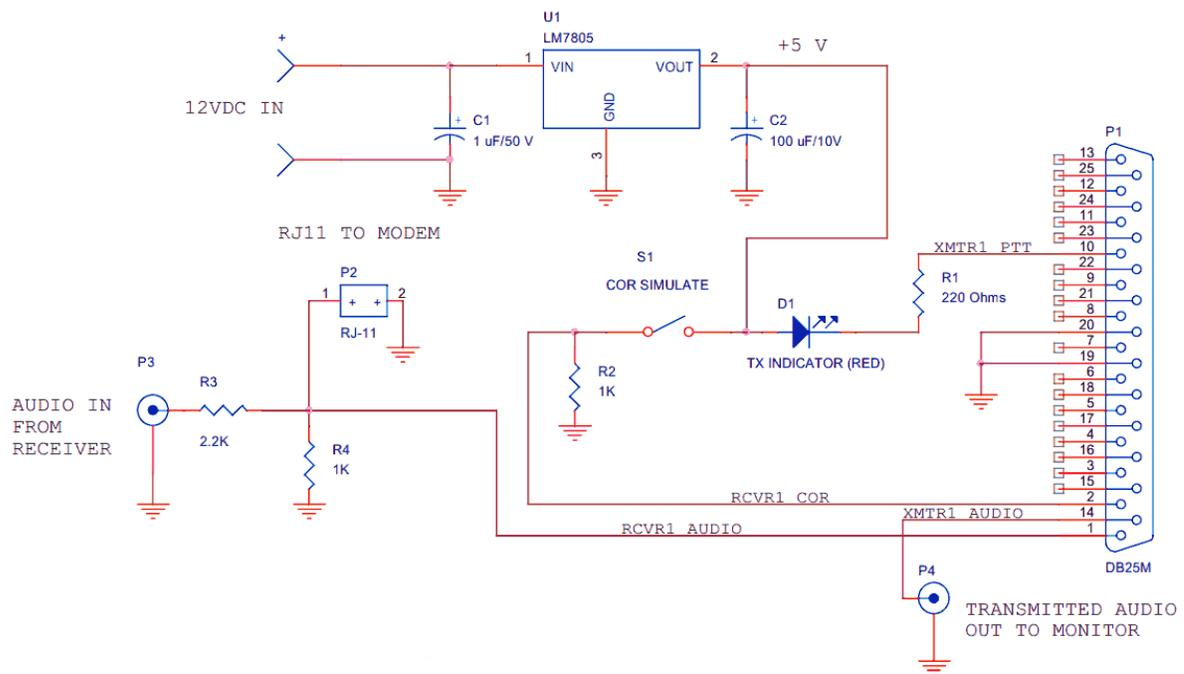

Figure 6: Custom Fixture for Bench Programming S-COM Controllers in DTMF Mode
- A Hayes-compatible smartmodem is connected directly to the S-COM controller using a fixture similar to that of Figure 6. This is the typical setup used for bench programming a controller prior to installation.
- Connect a Hayes-compatible smartmodem to your computer, and interface it directly with the controller using the fixture of Figure 6, or through a phone line if remotely programming.